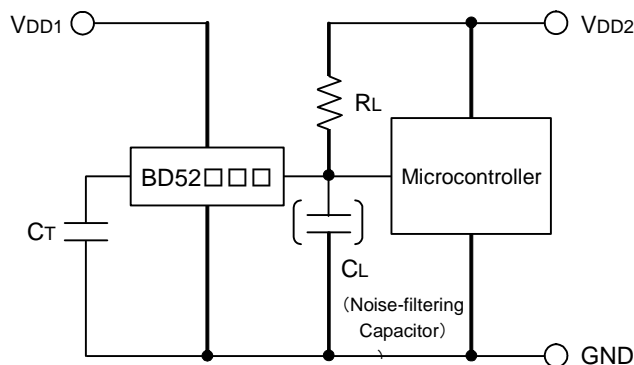

Fig.6 Open Collector Output Type
The power supply of the microcontroller (VDD2) differs from the power supply of the reset detection (VDD1). Use the open drain output type (BD52□□G/FVE) attached a load resistance (RL) between the output and VDD2. (As shown Fig.6)